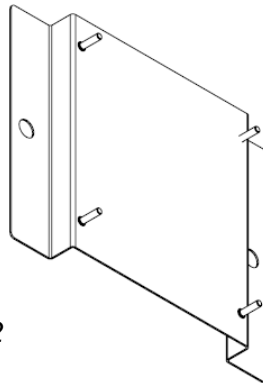

fig. 12
12. Screw the control box holder to the wall or ceiling at a convenient distance from the lift. Put the control box on the holder and tighten the screws (fig. 12).